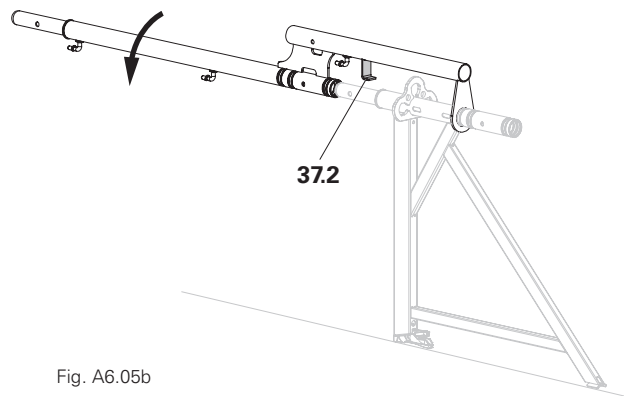
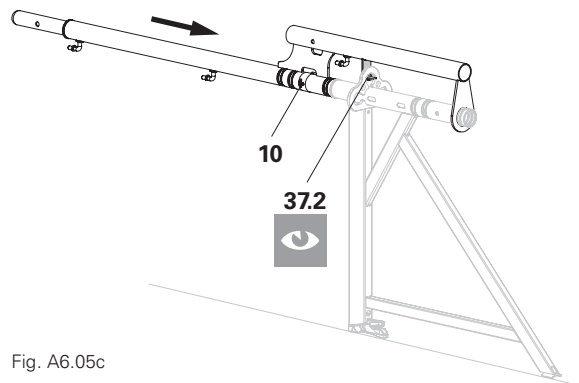

Fig. A6.05b
Fig. A6.05c
2. Push the Protection Panel Post EPS upwards on the Console Bracket ECM and push it onto the spigot of the Console Bracket ECM until the hook block (37.2) engages in the ledger-to-ledger coupler of the rosette. (Fig. A6.05b + A6.05c)
3. To extend the reach, pin the protection panel post with locking pins \varnothing 48/57 (10).
- The protection panel post is now pre-assembled. (Fig. A6.05c)